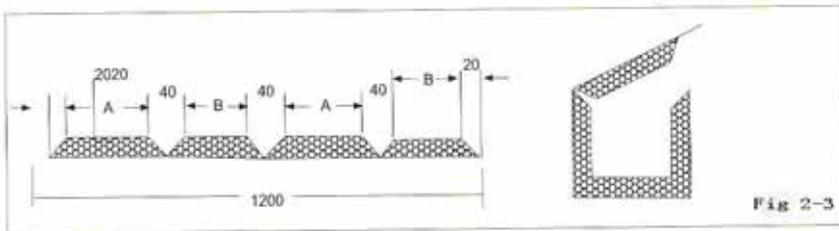

Fig 2-3
a. Technique (1): the total length of 4 sides  $2(A+B) \leq 1020\text{mm}$ , duct can be made by a panel which the longest length is 4m by lengthways cutting. (Fig 2-3)